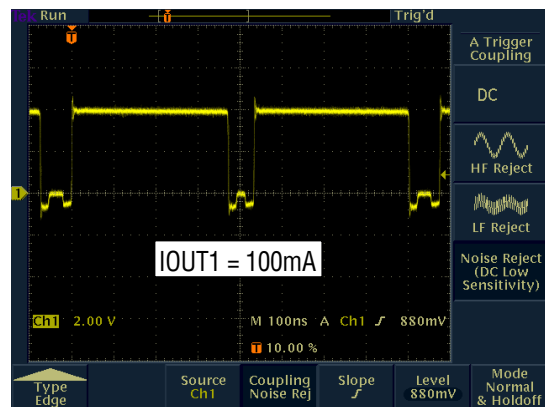

Figure 2. SWAB1 switching waveform
**NOTE.** When measuring the input or output voltage ripple, care must be taken to avoid a long ground lead on the oscilloscope probe. Measure the input or output voltage ripple by touching the probe tip directly across the VBUS or VOUT(x) and GND terminals. See Figure 2 for proper scope probe technique.